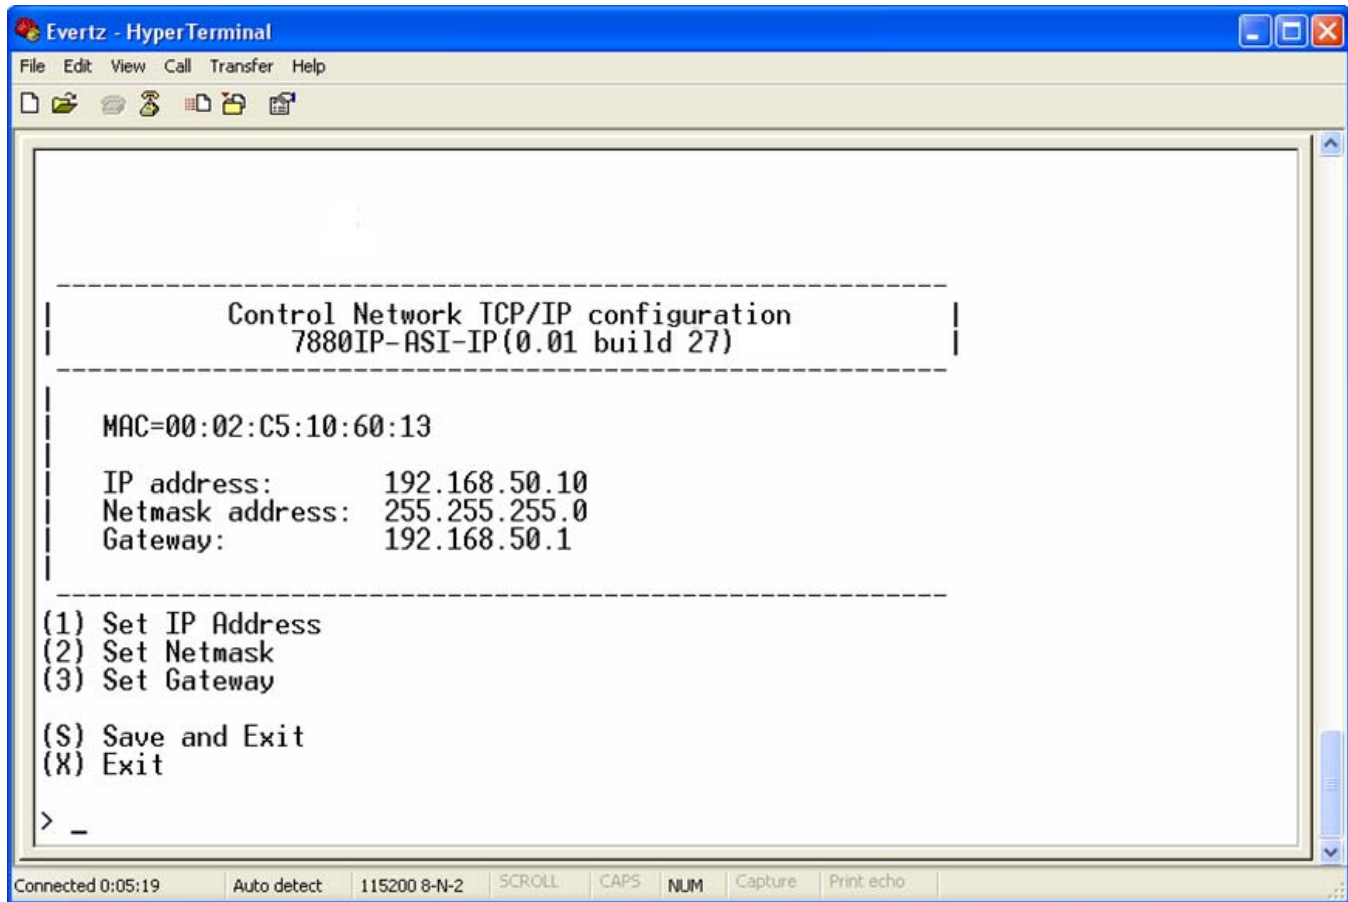

Figure 2-6: 7880IP-ASI-IP Network Configuration Sub-Menu
From the terminal session window select option (1) *Control Network Configuration*, the Control Network Configuration menu will be displayed as shown in Figure 2-6.
1. Select option (1) *Set IP Address* and configure the card IP address, ensuring that the IP address is not already in use on the network.
2. Select option (2) *Set Netmask* and configure the correct subnet mask for your network.
3. If required also configure option (3) *Set Gateway*.